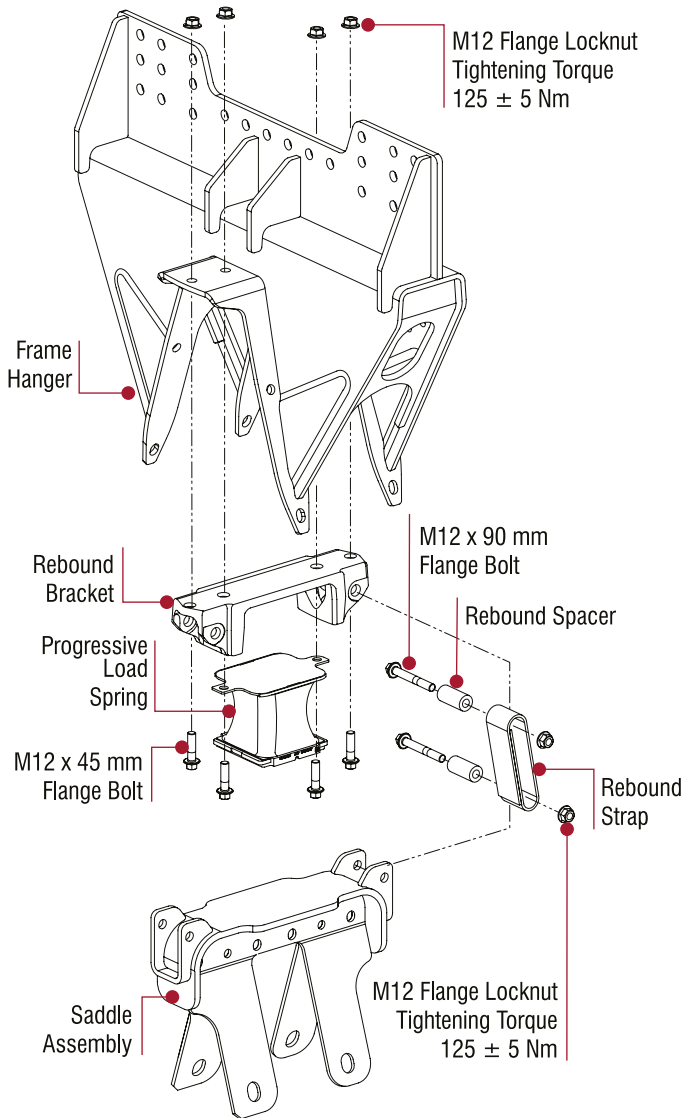

Figure 26: Progressive Load Spring Assembly
5. Remove the progressive load spring from the load spring rebound bracket, refer Figure 26.
2. Attach the new progressive load spring assembly and connect to the frame hanger. Tighten to **125 Nm** torque, refer Figure 26.
4. Install upper rebound strap, M12 fasteners and spacers to the load spring rebound bracket. Tighten to **125 Nm** torque, refer Figure 26.